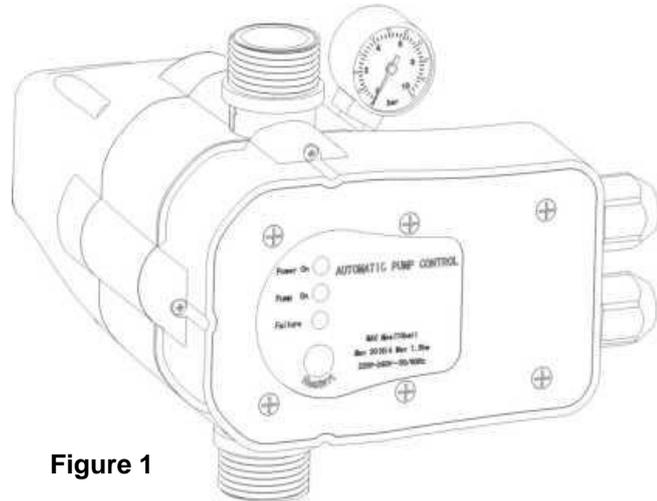

Figure 1
Before proceeding with the installation and the starting of the Hydromatic, it is essential to prime the pump correctly. The controller should be installed always in a vertical position (refer fig. 1 and 2). Avoid installing non-return valves closer than one metre from the Hydromatic, and do not install taps between the pump and the Hydromatic.
-] The Hydromatic is installed upright, as per Figure 1, page 1